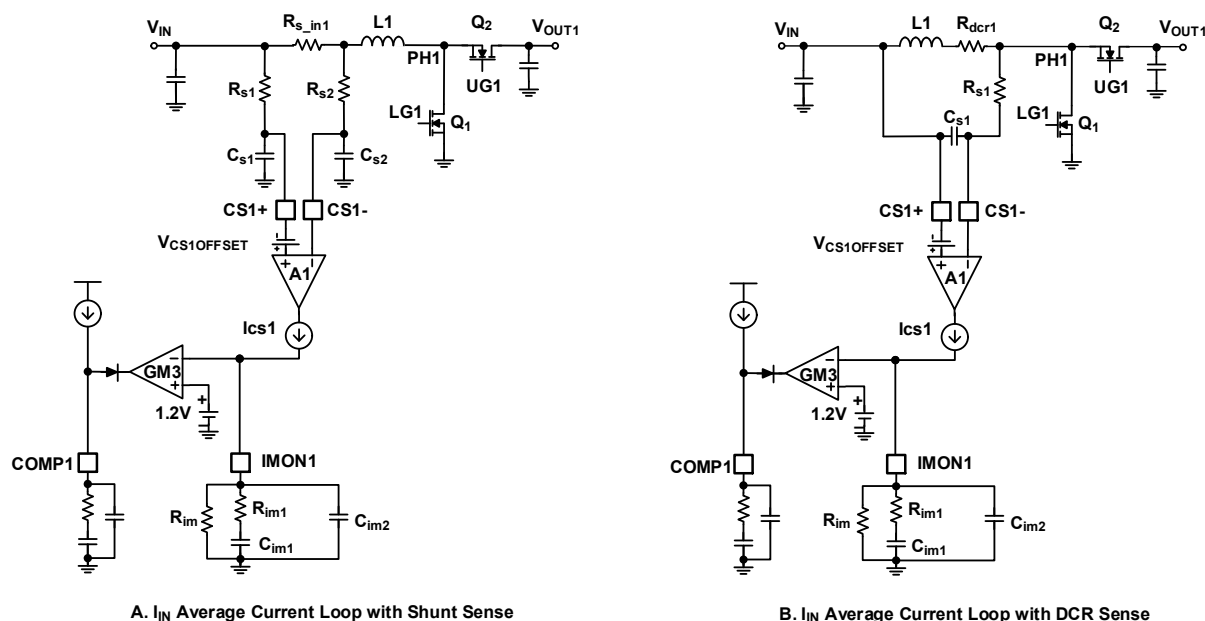

Figure 40. Input Average Current Monitoring and Regulation Loops
The ISL81805 has two current-sense amplifiers (A1 and A2) that monitor the input current of both channels. Figure 40 (A) shows the ISL81805 Channel 1 current shunt sense and monitor circuit which is identical to Channel 2. The voltage signal on the current sense resistor R_{S_IN1} is sent to the differential input of CS1+/CS1-, after the RC filters R_{S1}/C_{S1} and R_{S2}/C_{S2} . Renesas recommends using a 1Ω value for R_{S1} and R_{S2} , and a 10nF value for C_{S1} and C_{S2} to effectively dampen the switching noise without significantly delaying the current signal or introducing too much error by the op-amp bias current. The A1 amplifier converts the current-sense voltage signal to the current signal I_{CS1} .
Figure 40 (B) shows the ISL81805 Channel 1 inductor DCR current sense and monitor circuit. R_{DCR1} plays the same role as R_{S_IN1} in the shunt current sense circuit. Renesas recommends keeping $R_{S1} \times C_{S1} = L1/R_{DCR1}$. To minimize the error caused by the A1 input bias current, Renesas recommends keeping R_{S1} less than 10k.
When DE mode is set, Channel 1 and 2 boost sync FET driven by UG1 and UG2 are all running in DE mode. The inductor current is not allowed to reverse (discontinuous operation) depending on the zero-cross detection reference level V_{CROSS1} for Channel 1 and V_{CROSS2} for Channel 2 sync FET. At light load conditions, the converter goes into diode emulation. When the load current is less than the level set by $V_{IMON1\,BSTEN}$ or $V_{IMON2\,BSTEN}$ typical 0.835V on the IMON1 or IMON2 pin, Channel 1 or 2 enters Burst mode. Equation 9 sets the Burst mode operation enter condition for Channel 1 as an example (see Figure 40). The same equation also applies to Channel 2.
As shown in Figure 40 in Input Average Current Monitoring and Regulation Loops, the inductor peak current is sensed by the shunt resistor R_{S_IN} and amplifier A1. When the voltage drops on R_{S_IN} reaches the set point $V_{OCSET-CS}$ typical 82mV, Q_1 is turned off. The first-level peak current limit setpoint (I_{OCP1}) is calculated using Equation 12.
In cases of OVP protection, the inductor current becomes too negative. The negative current is sensed by the shunt resistor R_{S_IN} and amplifier A1 as shown in Figure 40. When the voltage drop on R_{S_IN} reaches the set point $V_{OCSET-CS-N}$ (typical -60mV), Q_2 is turned off and Q_1 is turned on. The negative peak current limit set point I_{OCPPN} is calculated using Equation 14.